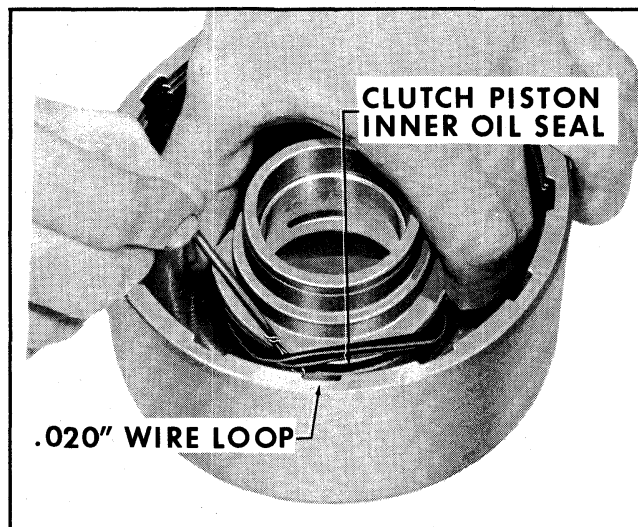

Fig. 7B-80 Installing Clutch Piston Inner Oil Seal
2. Install new bushing using tool J-21424-4 (Fig. 7B-79). Press in bushing until J-21424-4 is flush with face of sun gear.